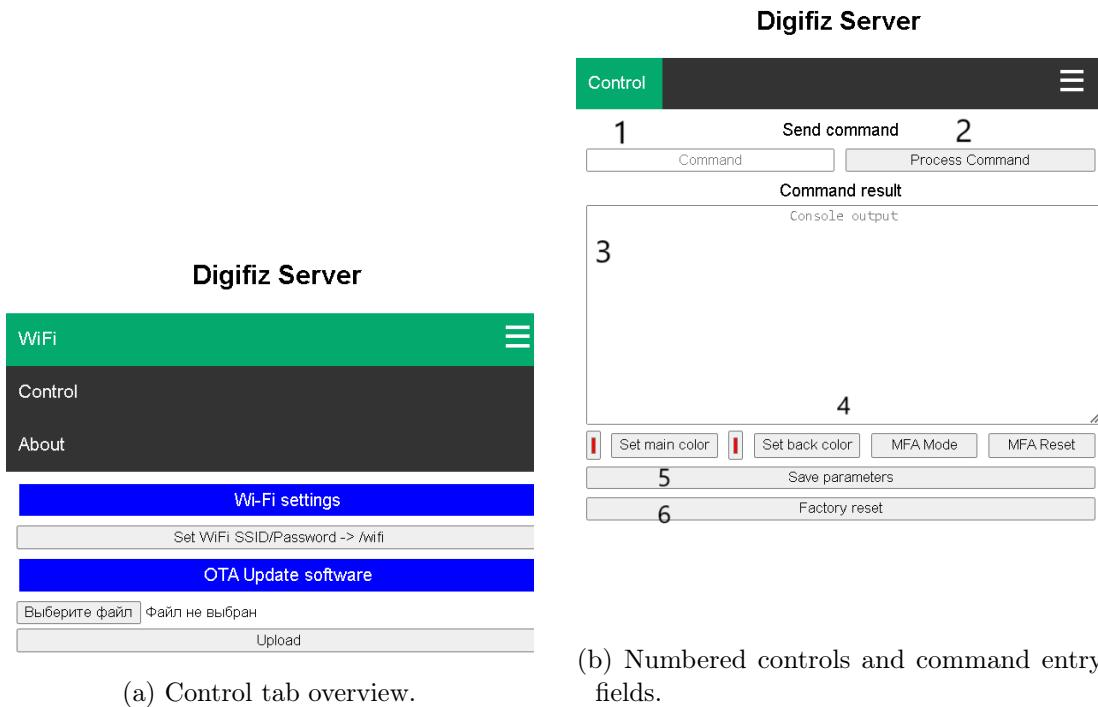

Figure 8.2 / Digifiz Next Wi-Fi control interface.
- The portal contains five tabs: WiFi, Control, Settings, Colors, and About (Figure 8.2). The WiFi tab configures network settings and handles firmware